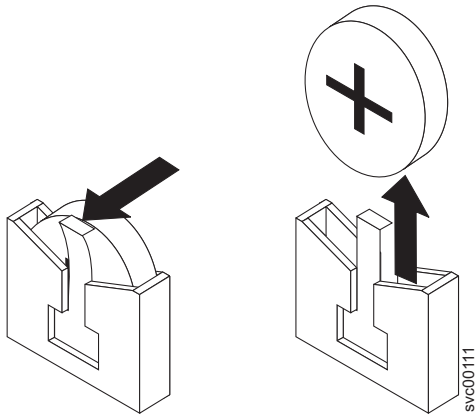

Figure 138. SAN Volume Controller 2145-8F2 or the SAN Volume Controller 2145-8F4 CMOS battery holder
- a. Use one finger to pull the retainer tab, which is shown in Figure 138 on page 148, that secures the battery to its housing.